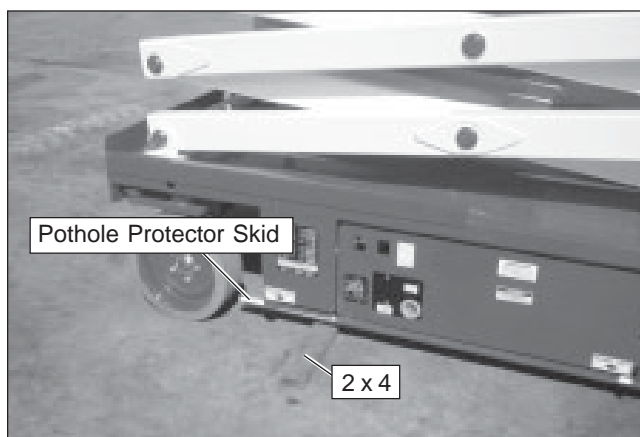

Figure 8.13 – Pothole Protector Interlock Test
6. Place a 3.8 cm (1 1/2") thick board, such as a 2 x 4, under the skid on the left side (refer to Figure 8.13).